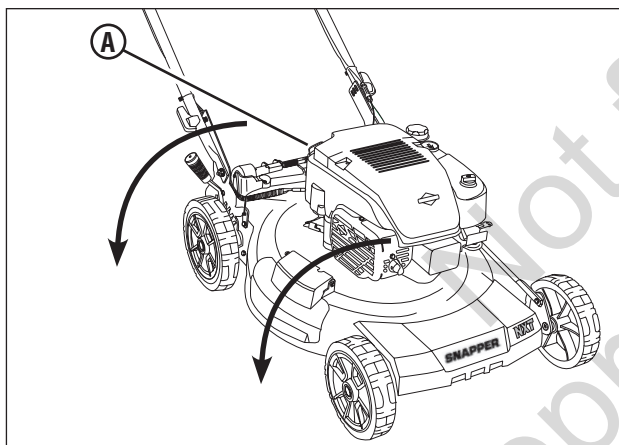

Figure 13: Draining the engine oil
2. Remove the dipstick (A, Figure 13), then turn the mower on its side. Allow the oil to drain from the oil fill tube into an appropriate container. Dispose of used oil properly.